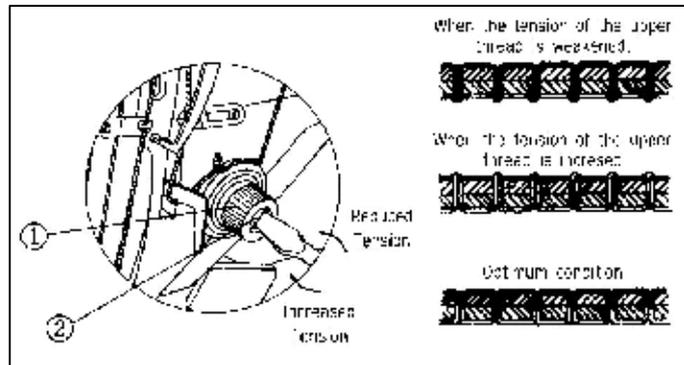

Fig.16
The tension of the upper thread gets tighter if the tension adjusting nut (1) as in Fig. 16 is turned in a clockwise direction and it gets looser when turned in the opposite direction. The tension of the thread should differ according to the sewing conditions which depend on the material, thread, stitch length etc.
As in Fig 16, use a driver in the thread adjustment shaft groove (2) to adjust the spring tension. The thread take up lever spring grows tighter when the driver is turned clockwise and looser when turned counter clockwise.